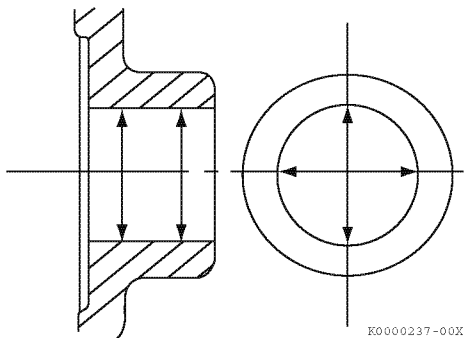

Figure 6-62
6. Measure the diameter of the wrist pin bore on both sides of the piston (**Figure 6-62**). See *Piston on page 6-8 for specifications*. Record the measurements.